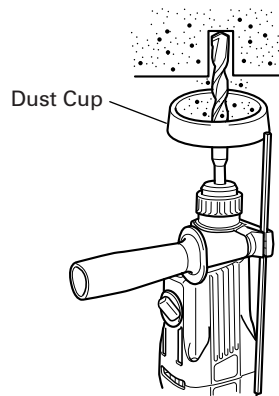
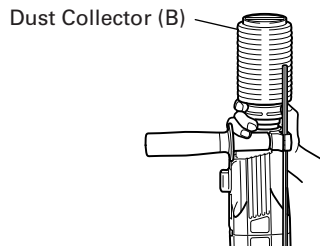

Fig. 3
Fig. 4
## 7. Installation of dust cup or dust collector (B) (Optional accessories) (Fig. 3, Fig. 4)
Use the dust cup by attaching to the drill bit as shown in Fig. 3.
- Installing dust collector (B)
When using dust collector (B), insert dust collector (B) from the tip of the bit by aligning it to the groove on the grip. (Fig. 4)